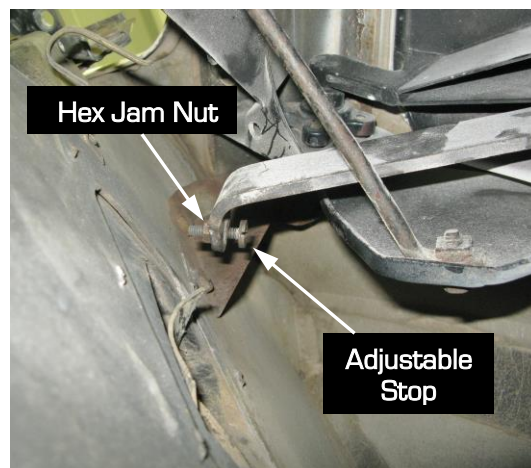
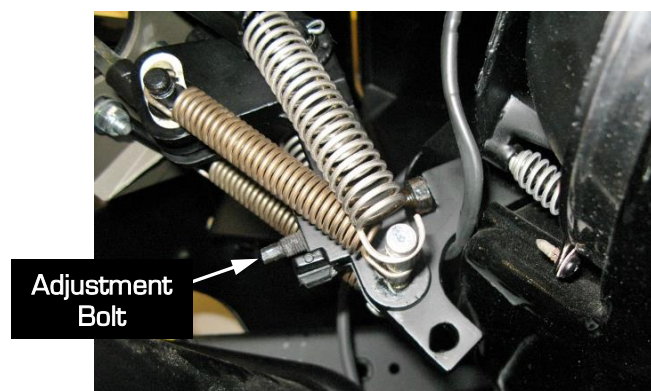

Figure 13 - Headlight Door Stop
Figure 17 – Adjustment Bolt for Closed Headlight Door
13. Remove the adjustable stop from the arm on the headlight door assembly. Move the hex jam nut from the front side to the back side of the bracket and re-install the stop (Figure 13). This will give you more adjustment once the round bumper pad is installed. **NOTE:** The stop will need to be adjusted later when testing the opening height of the headlight door actuators.
18. Use a $7/32"$ wrench or socket to adjust the bolt to set the closed height of the headlight door so it is slightly below flush of the front end (Figure 17).
44. Adjust the height of the stops on the doors as needed by adjusting the hex jam nut and moving the stop on the arm (Refer to Figure 13) for the opened height of the headlight door. That way the headlight doors will be open at the same height. Adjust the bolt on the door linkage as needed for the closed height of the doors (Refer to Figure 17). **NOTE:** If these stops are not adjusted correctly, the doors will not fully open and/or close.